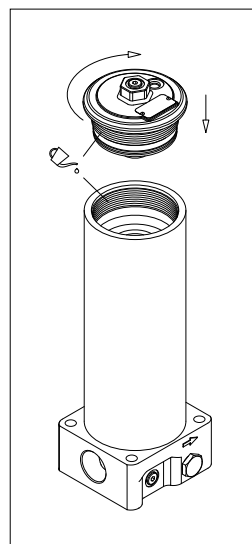

fig. 9
- (Fig. 9) Lubricate the O-ring and the threads of bowl and cover, then screw the cover in referring to the tightening torque table in paragraph 3